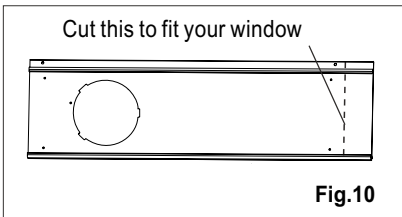

Fig.10
- i** Cut the adjustable window slider kit if the width of window is less than 67.5 cm (Fig.10).
2. Open the window sash and place the window slider kit on the window stool (Fig.15). Attach the window slider kit to the window stool. Adjust the length of the window slider kit according to the height of window. Screw down the two screws on the window slider kit. See Fig.15. Cut the adjustable window slider kit if the height of window is less than 67.5cm (Fig.10).